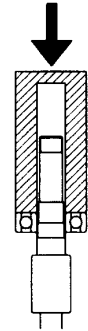

Fig. 5
- (1) Press *bearing* ⑳ onto *shaft* ⑧ until seated against the shoulder. (Fig.5)
- (2) Install *bearing washer* ㉑ and *bearing nut* ㉒.
- (3) Press *bearing* ㉓ into *bearing box (outlet side)* ㉔.
- (4) Install *bearing retaining cap* ㉕ temporarily.